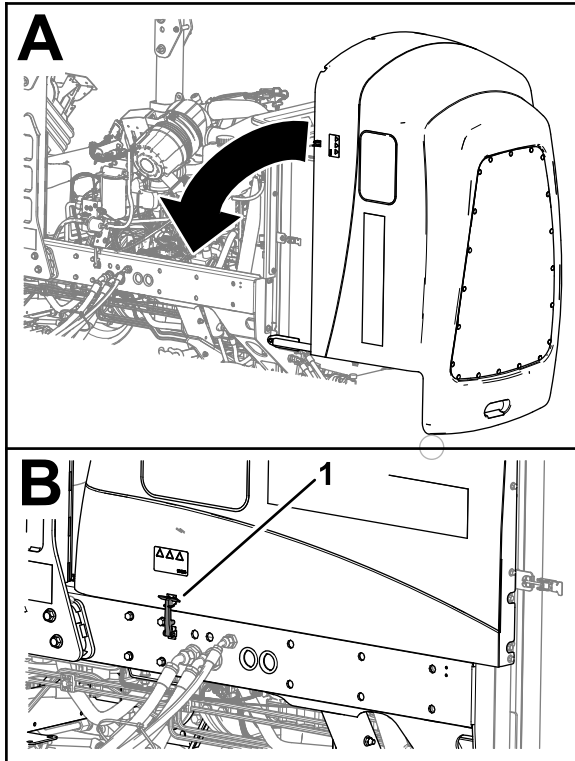

Figure 49
1. Carefully rotate the hood closed (Figure 49).